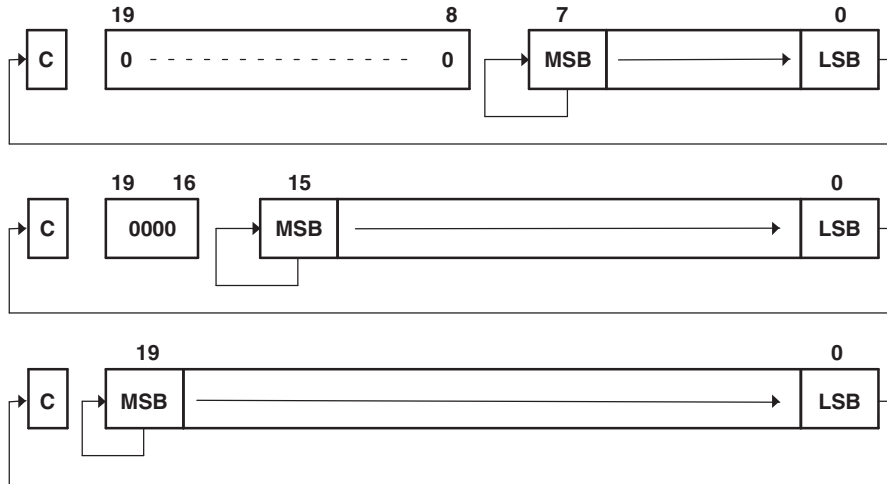

Figure 4-47. Rotate Right Arithmetically RRAX(.B,.A) – Register Mode
**Description** Register mode for the destination: the destination operand is shifted right by one bit position as shown in Figure 4-47. The MSB retains its value (sign). The word instruction RRAX.W clears the bits Rdst.19:16, the byte instruction RRAX.B clears the bits Rdst.19:8. The MSB retains its value (sign), the LSB is shifted into the carry bit. RRAX here operates equal to a signed division by 2.